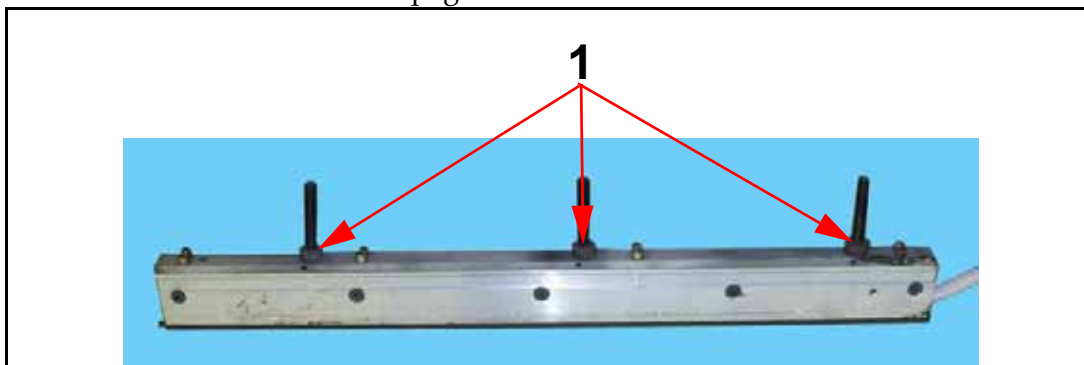

Figure 7-41. Seal Bar Spacers
- 19 Install spacers (1 in Figure 7-41) on bar.